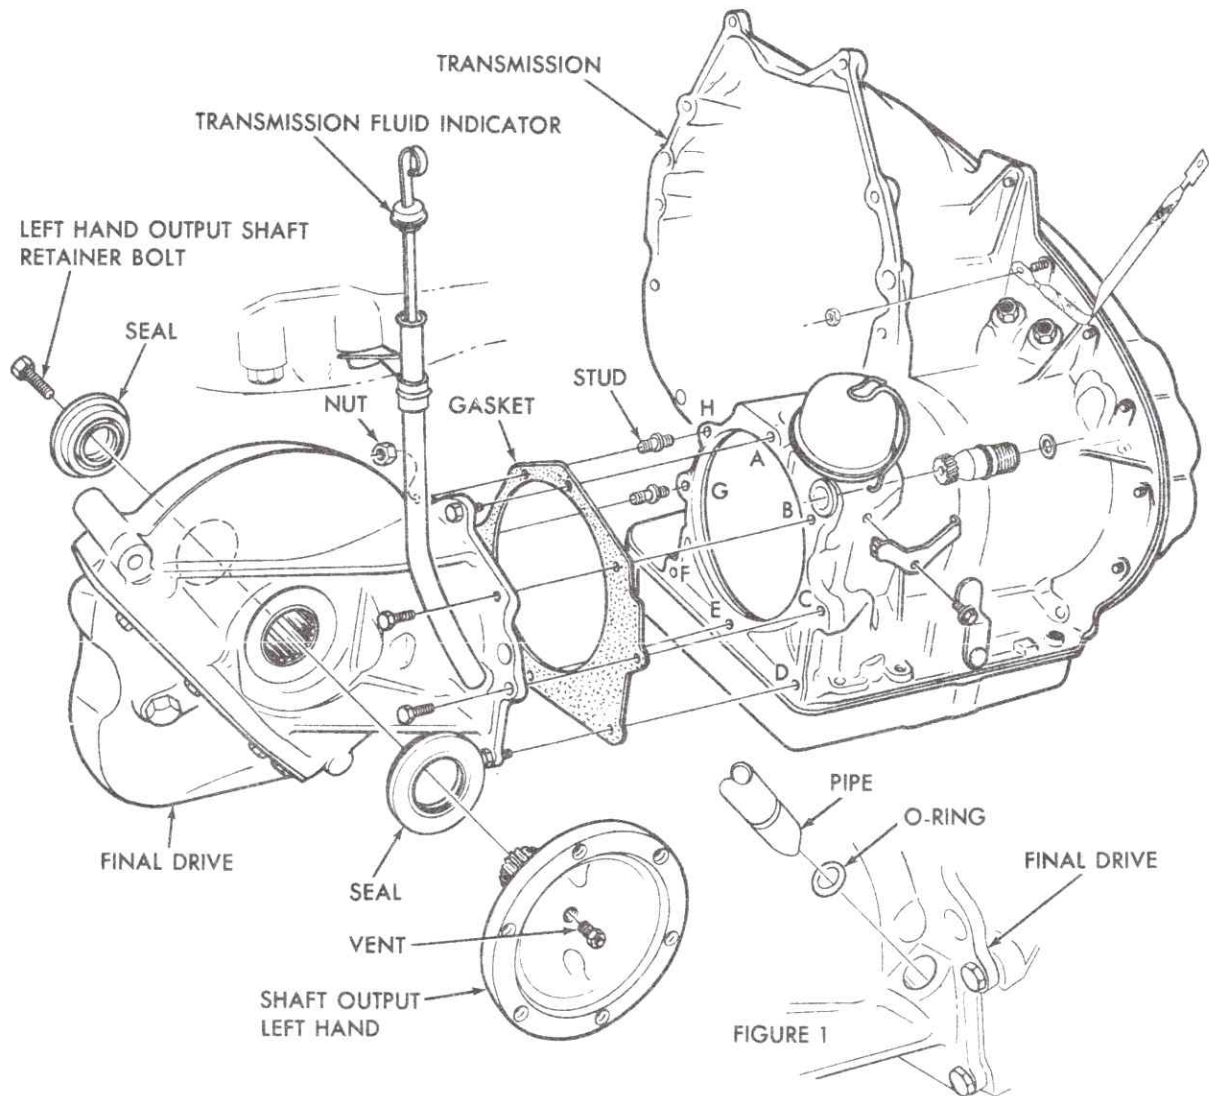

Fig. 3-64 Final Drive Attachment
5. Remove bolts "A" and "B" and nut "H" securing upper part of final drive case to transmission case, Fig. 3-64.
22. Remove bolts "C", "D", "E", "F" and nut "G" securing final drive case to transmission case, Fig. 3-64.